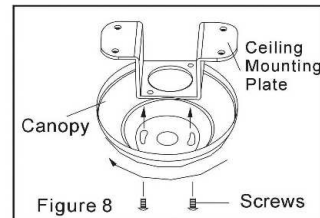

Figure 8
1. Remove the canopy ring from the canopy by turning the ring to the right until it was removed (Figure 8)